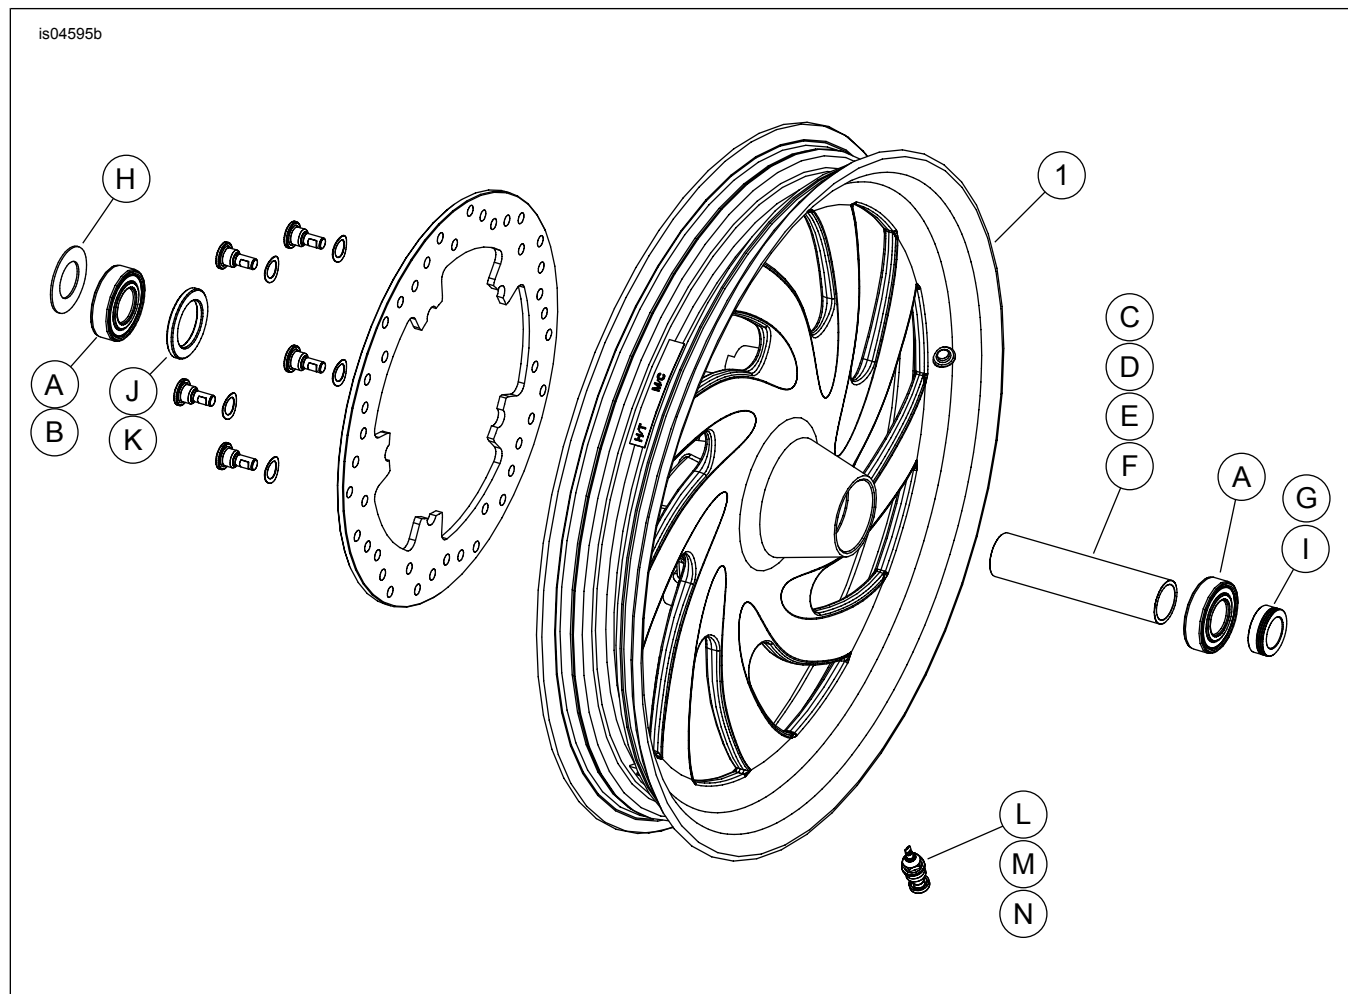

Figure 2. Service Parts: Front Typhoon Disc Wheel (19-inch wheel shown)
2. See Figure 2. Install valve stem assembly (M) on wheel. Refer to TIRES in service manual.